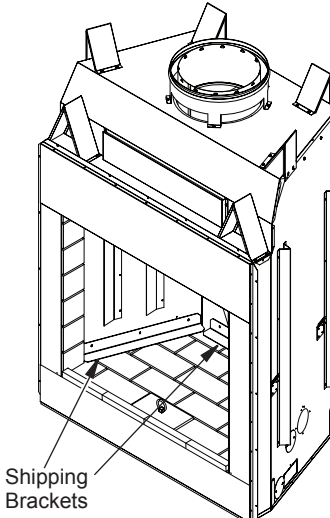

Figure 20 - Removing Shipping Brackets
1. The fireplace is shipped with the hearth preinstalled. It is held in place for shipping with 3 shipping brackets (Figure 20). Remove these brackets before installing any of the other firebrick walls.